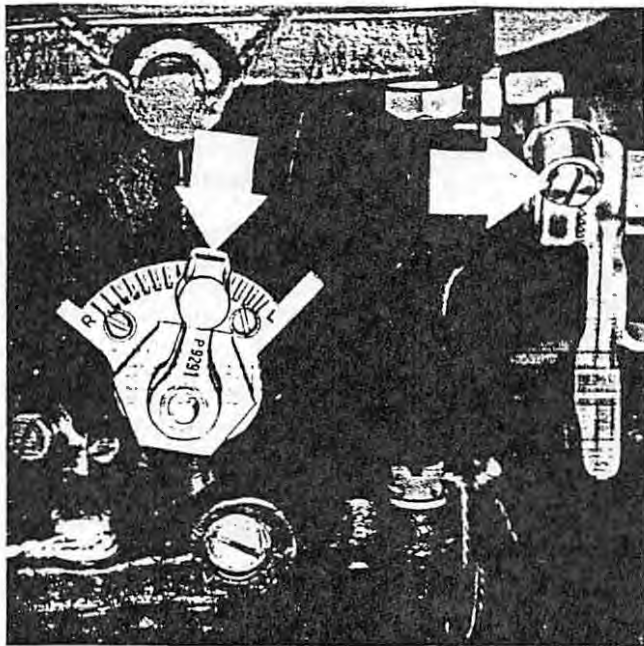

Figure 5-27. Carburetor Mixture and Idle Adjustment
- If an incorrect idle mixture was noted, move idle mixture adjustment one or two notches in the desired direction, either "R" (rich) or "L" (lean). (See figure 5-27.)